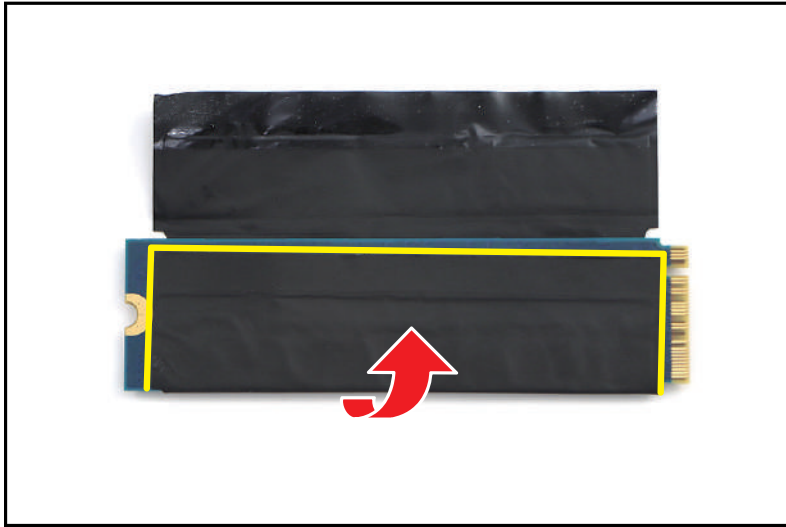

Figure 3-153. Replacing the SSD Module
2. Fold the bottom portion of the mylar onto the SSD module as shown in Figure 3-153.